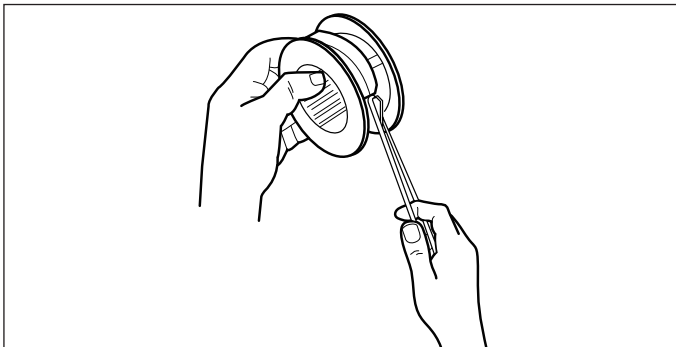

Fig. 21c
9. Cut a new 6 m long trimming line with a diameter of 2.0 mm. Form a loop at the middle of the line and insert this loop into the hook on the spool. (See Fig. 21c)